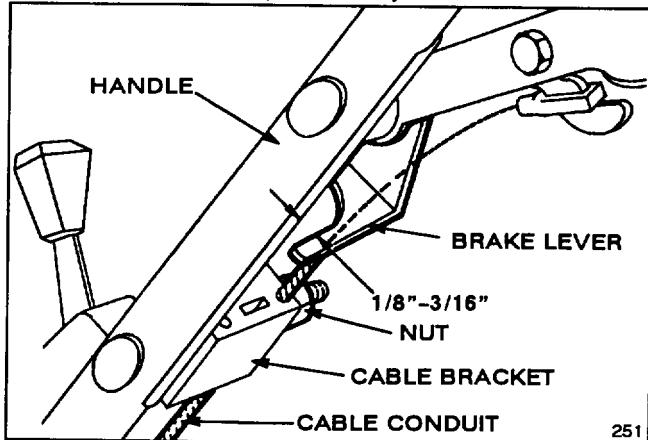

Figure 23
2. CHECK ADJUSTMENT (Fig. 23)—Move control bar toward handle until slack in wire is removed. Gap between brake lever and handle must be  $1/8$ "- $3/16$ ". See step 3 for adjustment.
3. ADJUST CABLE CONDUIT (Fig. 23)—Loosen nut on cable bracket. Insert  $1/8$ "- $3/16$ " object between brake lever and handle. Pull down on cable conduit until all slack is removed from wire. Then tighten nut.